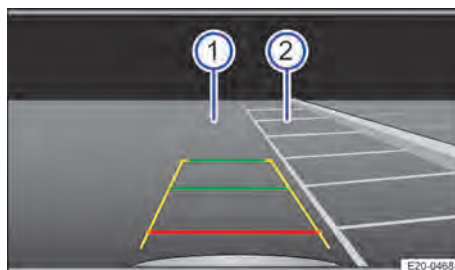

Fig. 115 Infotainment system: selecting a parking space.
4. Position the vehicle in front of the parking space → Fig. 115 ②.